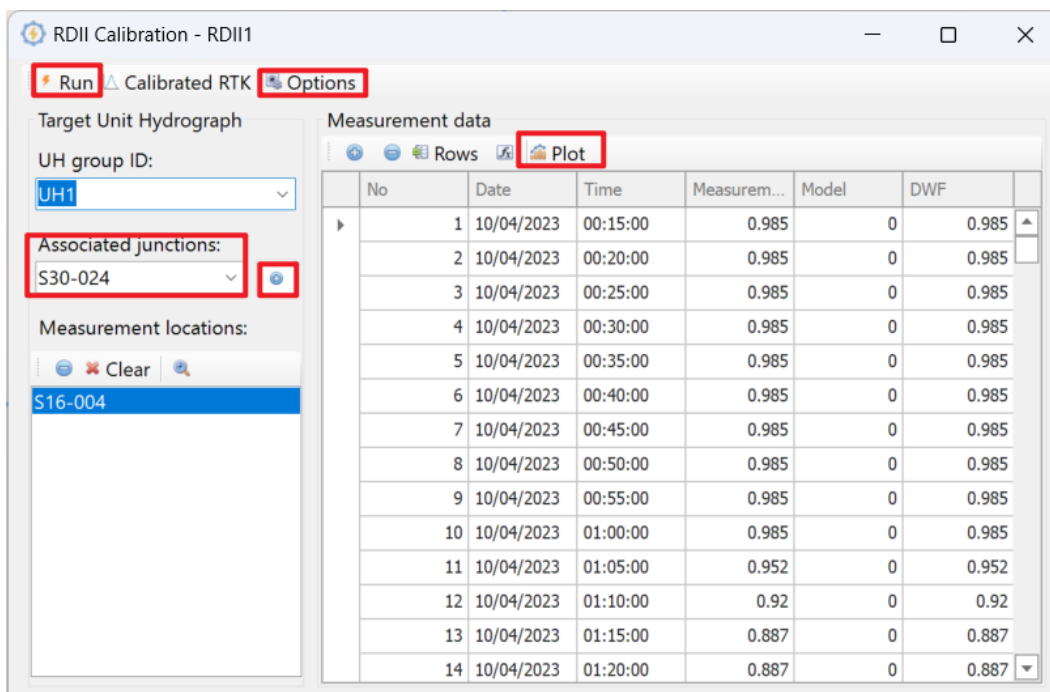

Figure 8: RDII calibration menu.
1. All the junctions associated with the UH group are shown in the *Associated junctions* dropdown menu (Figure 8).
1. The *Run* button (Figure 8) will run and calibrate by using the genetic algorithm to match the UH RTK parameters to the measured data.